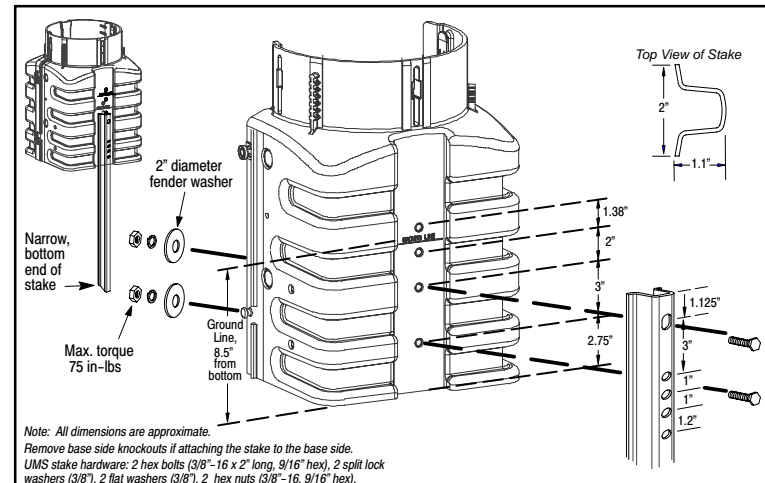
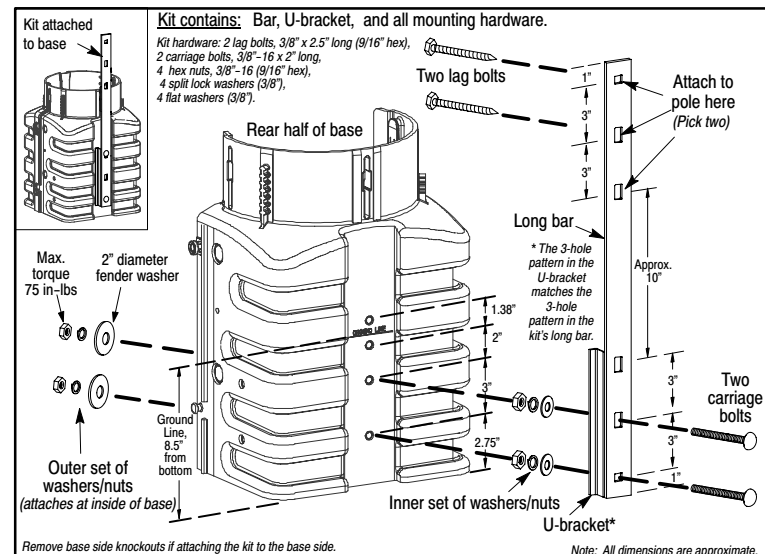

Figure 3. Mounting the UMS Stake on the Base
Figure 4. Installing the Pole-Mount Bracket Kit
1.2 Document Status. Whenever this document is updated, the reason will be stated in this paragraph. Print 5 updated step 25 for proper conduit trim height in Table 1. Print 4 updates Step 6 of Table 3 and Step 4 of Table 4. Print 3 adds Step 15 of Table 1, and updates Figures 3 and 4. Print 2 updated Steps 23 and 26 of Table 1, added GR-13-CORE Issue 4 compliance and information on the correct procedure to straighten an installed base.
15. **Install UMS stakes or pole-mounting bracket (if required).** Install the UMS stake as shown in Figure 3. Install the pole-mount bracket per Figure 4. Maximum tightening torque for both the UMS stake and pole-mount bracket shall be 75 in-lbs.
| 6. | Secure base to stake. When the stake is at the proper height, place the base against the stake, align the marked base knockout holes with the correct stake mounting holes, and insert the bolts through the aligned holes, leaving the threaded part of the bolt inside the base. Place a 2" diameter fender washer then a lock washer onto each bolt at the inside of the base wall (per Figure 3), then thread a nut onto each bolt and firmly tighten (max torque is 75 in-lbs). Use galvanized hardware supplied with the product. |
Table 3. Installing a Pedestal Base with a UMS Stake (Figure 3)
| 2. | Select base & kit mounting holes*. The pole-mount bracket kit can be attached to the base rear in several different vertical positions (remove the base's top knockout for the highest position, see Step 14). Select the desired holes (see Figure 4). |
| 4. | Attach kit to base. Attach the pole-mount bracket kit to the base by first aligning the carriage bolts attached at the bottom of the kit with the correct or chosen holes in the base. Next, press the kit to the base to fully-insert the bolts into the base holes. Place a 2" diameter fender washer then a lock washer onto each bolt at the inside of the base wall (per Figure 4), then thread a nut onto each bolt and firmly tighten (max torque is 75 in-lbs). Use the supplied galvanized hardware. |
Table 4. Pole-mounting a Base with a Pole-Mount Kit (Figure 4)